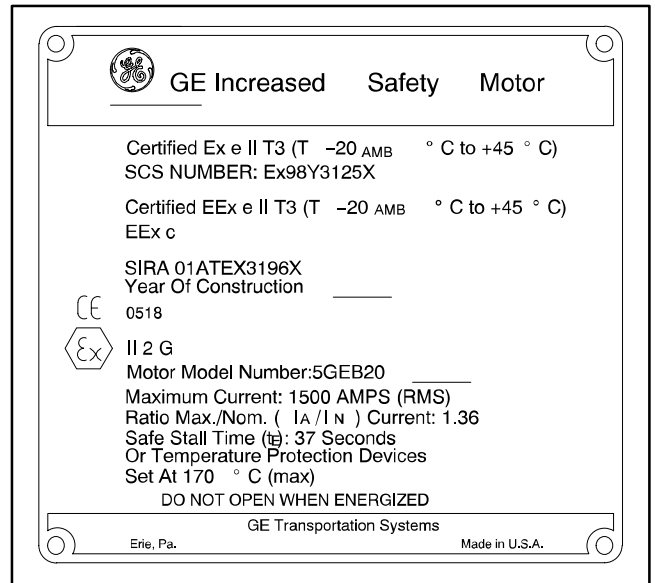

FIG. 3. SAFE ENVIRONMENTAL PARAMETERS FOR 5GEB20. E-45044.
3. Figure 2 defines the safe electrical parameters and Figure 3 defines the safe environmental parameters for the 5GEB20. The motor may be operated in the presence of typical vibration levels encountered on land and offshore drilling rigs.